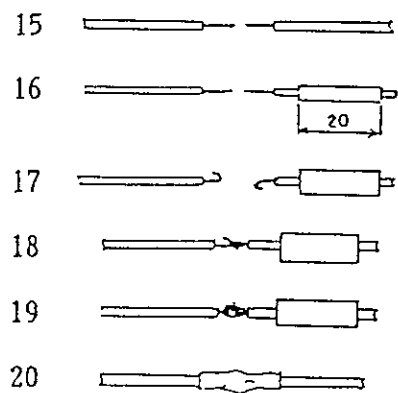

Fig. 12
16. Slide the heat shrink tube onto one of the leads as shown in Fig. 12.
17. Bend both of the leads as shown in Fig. 12.
18. Connect the temperature sensor and the brown cable of the connector assembly as shown in Fig. 12. Pinch the connection using needle-nosed pliers. (There is no plus/minus.)